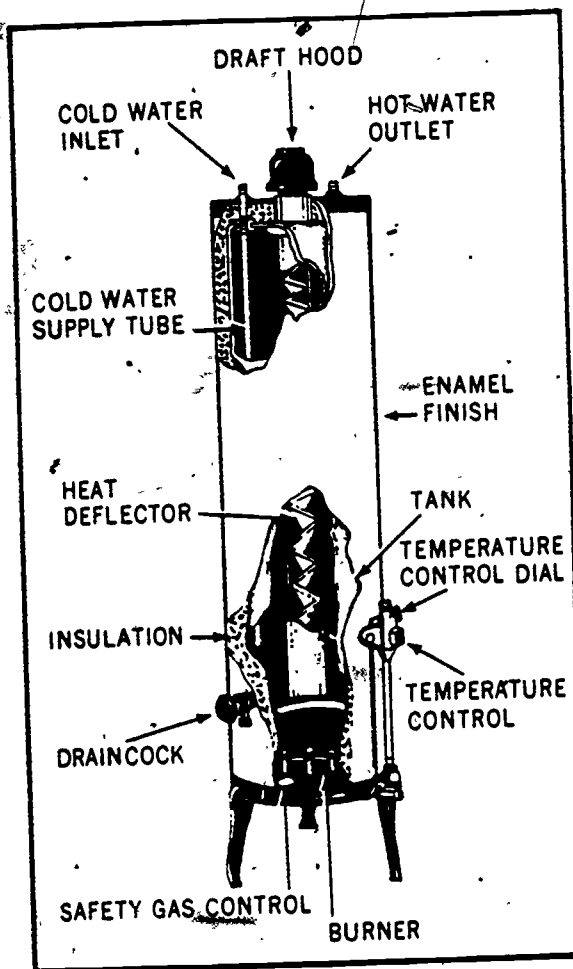

Figure 5-5. Typical construction of a gas water heater.
a. Gas water heater. The gas water heater, shown in figure 5-5, consists of a tank, burner, and flue. The tank is made of galvanized steel and is tested at 300 psi, with a working pressure of 127½ psi. The tank is covered with an insulation which, in turn, is covered with a sheet of galvanized steel casing. The casing has a baked enamel finish. The flue in the tank has a deflector that baffles the burned gases to extract as much heat energy as possible. The draft hood is designed to prevent downdrafts and updrafts of the gas fumes during the operation of the heater. The temperature control is automatic and has only two positions of operation—the burner is full on or completely off, with only the tiny pilot light burning. The temperature control dial is designed with an arrow indicator, which can be set at any temperature from 80° F. to 180° F. The tank is equipped with a drain cock to which a garden hose may be connected for flushing and draining operations. The complete water heater has a safety gas control which shuts off the main burner gas supply if the pilot light is extinguished. The air control to the burner is the only adjustment of the burner flame.